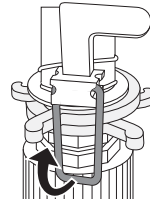

Fig. 8
- ♦ Fold the metal clip **5** upwards so that the sprinkler unit **3** rotates 360° (see Fig. 8).